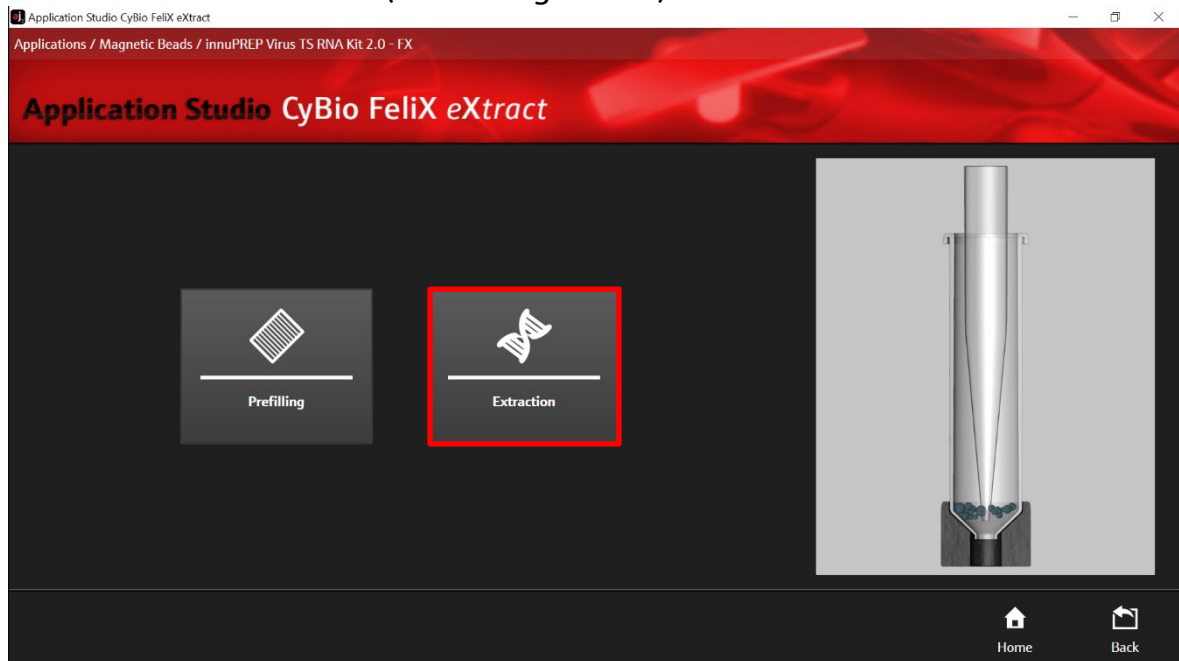

Figure 22: Routine selection in the AppStudio FeliX eXtract: Extraction.
6. Check the correct version number of the protocol (→ see Figure 22). "Extraction - innuPREP Virus TS RNA 2.0 – 02".